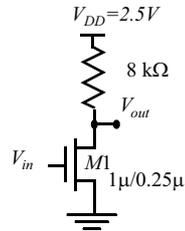

Figure 0.7 MOS circuit.
- [M, SPICE, 3.3.2] Problem 11 uses the MOS circuit of Figure 0.7.
17. [M, None, 3.3.3] Compute the gate and diffusion capacitances for transistor *M1* of Figure 0.7. Assume that drain and source areas are rectangular, and are $1 \mu\text{m}$ wide and $0.5 \mu\text{m}$ long. Use the parameters of Example 3.5 to determine the capacitance values. Assume $m_j = 0.5$ and $m_{jsw} = 0.44$. Also compute the total charge stored at node *In*, for the following initial conditions:
- For the circuit of Figure 0.7, calculate nominal, minimum, and maximum currents in the NMOS device with $V_{in} = 0 \text{V}, 2.5 \text{V}$ and 5V . Assume 3σ variations in V_{T0} of 25mV , in k' of 15% , and in lithographic etching of $0.15 \mu\text{m}$.